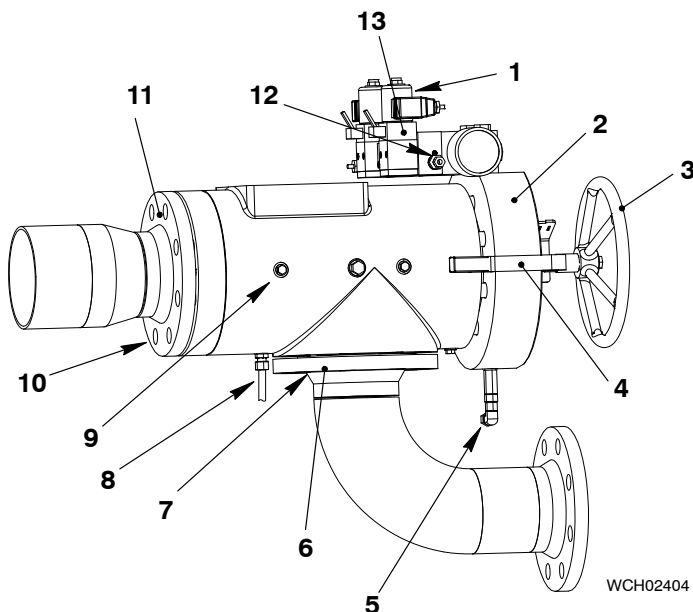

Fig. 5
- 21) Put the assembled shut-off valve in position as shown in Fig. 5.
- 22) Attach the flange (11) to the valve guide with the eight screws (10).
- 23) Torque the eight screws (10) to the value given in 0352-1, paragraph 1.
- 24) Attach the flange (6) to the shut-off valve with the eight screws (7).
- 25) Torque the eight screws (7) to the value given in 0352-1, paragraph 1.
- 26) Connect the check-pipe (8) to the pipe connection on the valve body.
- 27) Connect the control air pipe to the pipe connection (12).
- 7) Use the handwheel (3, Fig. 5) to move the shut-off valve to the position AUTOMAT. Make sure that the lever (4) engages with the groove in the spindle.
- 8) Make sure that no air flows from the bore of the screw plug (9). When no air flows, the automatic function of the shut-off valves operates correctly.